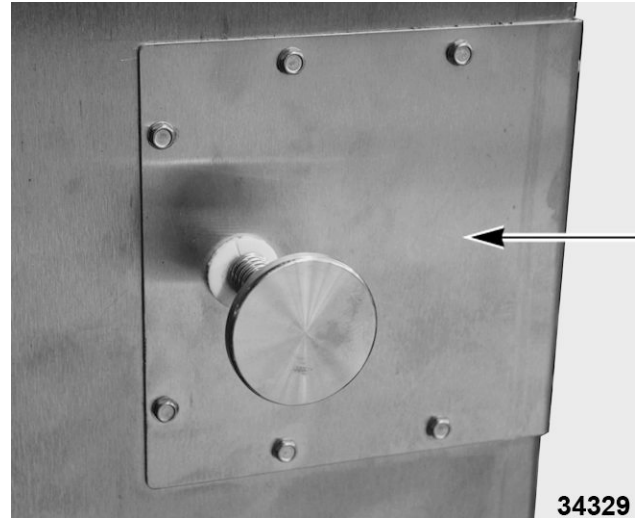

Fig. 75
- A. Remove inner door handle cover (Fig. 75).